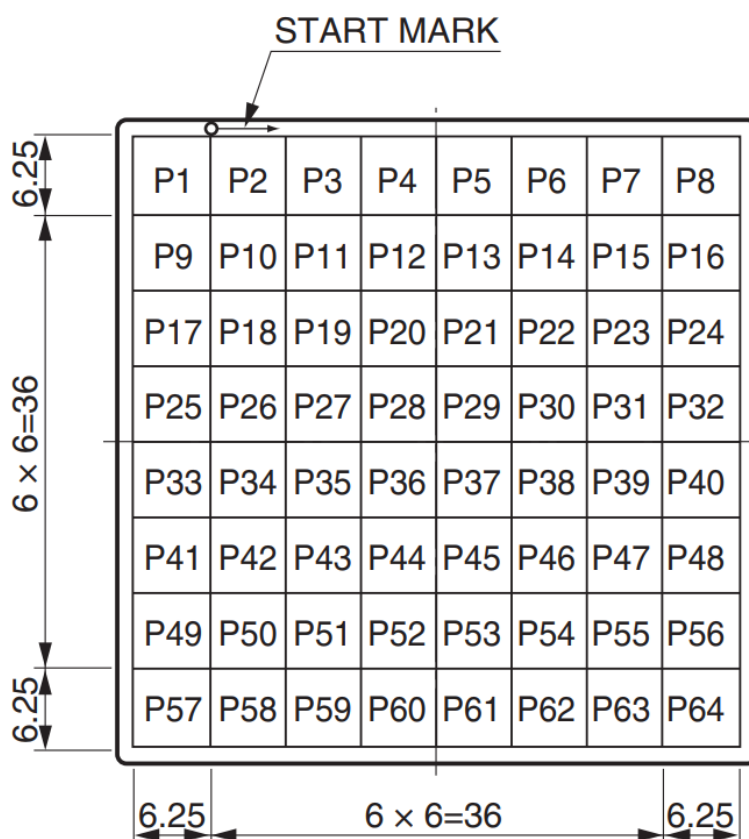

Figure 4: Hamamatsu H12700 pixel map.
The pixel map containing all four front-ends of a SoNDe CB is shown in Figure 6. The orientation/viewpoint is the same as in Figure 4. The rows and column that correspond to each pixel for each of the front-end are also shown.
- **PMT channel (1-64):** Pixel ID as defined in Figure 4.